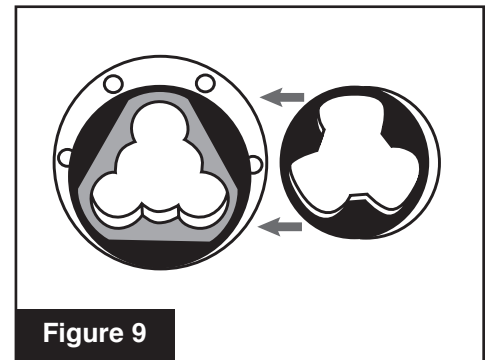

Figure 9
9. Retain thick rubber bushing on inner CV joint (**Figure 9**).